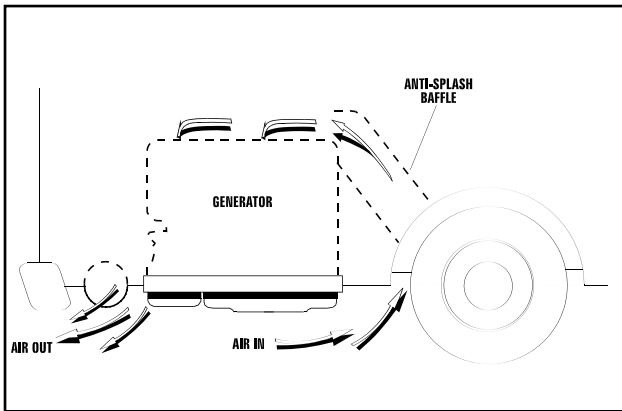

Figure 4. Ductwork
- Using ductwork (Figure 4 on next page). The installer must be sure air is available to the top of the generator since air inlets are located at the top.